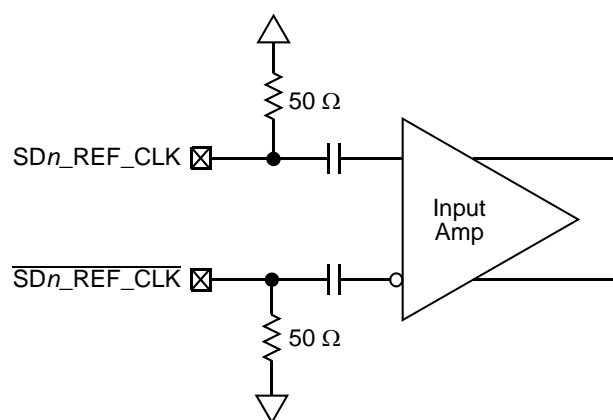

Figure 23. Receiver of SerDes Reference Clocks
Figure 23 shows a receiver reference diagram of the SerDes reference clocks.
- The SD_REF_CLK and $\overline{\text{SD_REF_CLK}}$ are internally AC-coupled differential inputs as shown in Figure 23. Each differential clock input (SD_REF_CLK or $\overline{\text{SD_REF_CLK}}$) has a 50- Ω termination to XCOREV_{SS} followed by on-chip AC coupling.